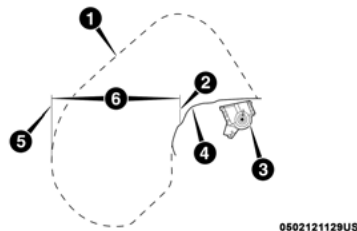
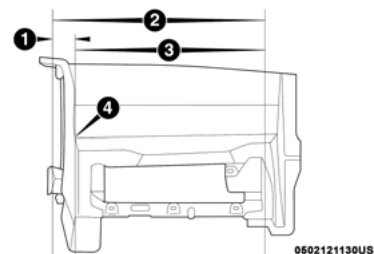

Figure 3 – Passenger Air Bag Deployment Zone,
Figure 4 – Passenger Air Bag Lateral Deployment Zone,
2. Passenger Air Bag Deployment Zone (Figure 3) and Passenger Air Bag Lateral Deployment Zone (Figure 4)